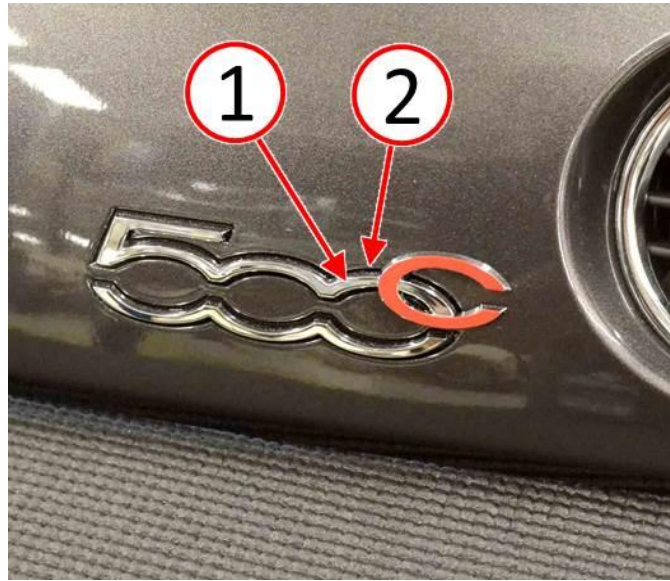

Fig. 7 Inspect Name Plate Alignment
8. Inspect to ensure the new "500" nameplate (1) is perfectly aligned with the depression (2) in the instrument panel bezel (Fig. 7).